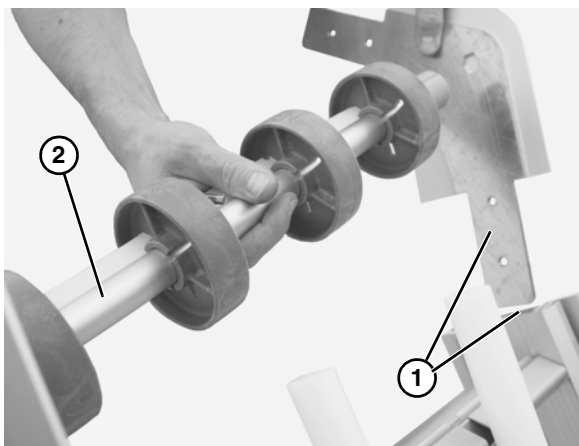

Figure 82
6. Slide knuckle joint plate from slot in conveyor frame (**Figure 82, item 1**) and remove shaft assembly (**Figure 82, item 1**).